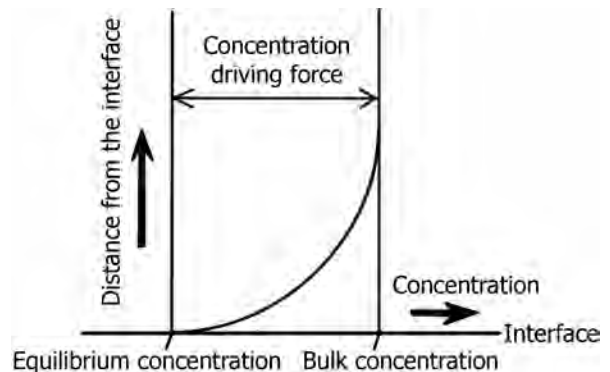

FIGURE 15.2 Concentration driving force.
- Figure 15.2 shows a schematic representation of the concentration distribution near an interface. Although the variation in the concentration near the interface is very sharp, it becomes more gradual in the region slightly further from the interface and the concentration slowly approaches that in the bulk fluid. Moreover, the concentration at the interface is in equilibrium between the phases.